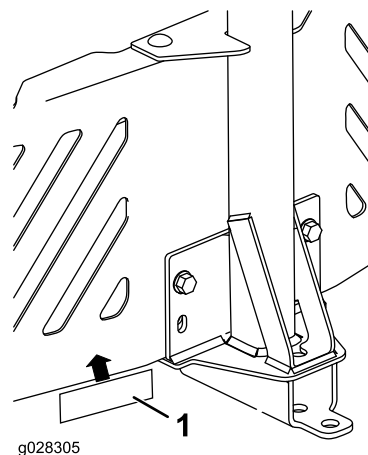

Figure 13
4. Attach the draw bar decal 1.3 cm (1/2 inch) to the left of the attachment mount (Figure 13).